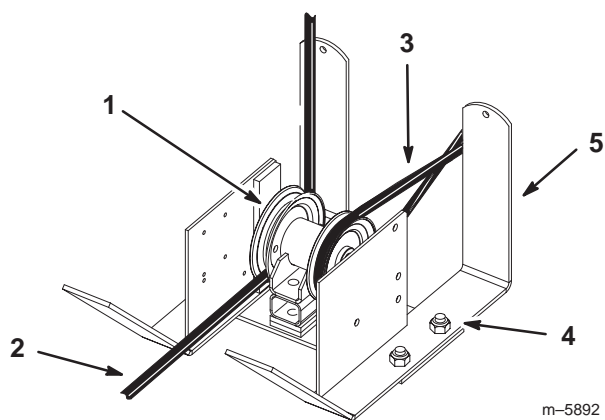

Figure 21
5. Loosen the 4 mounting bolts holding the drive pulley assembly (Fig 21).
6. If the gap measurement is too small, push the pulley assembly forward slightly [1/8–3/16 inch (3–5 mm)] from the original set-up position (Fig 21).
7. If the gap measurement is too large, pull the pulley assembly rearward slightly [1/8–3/16 inch (3–5 mm)] from the original set-up position (Fig 21).
8. Tighten the 4 mounting bolts holding the drive pulley assembly to the machine frame (Fig 21).